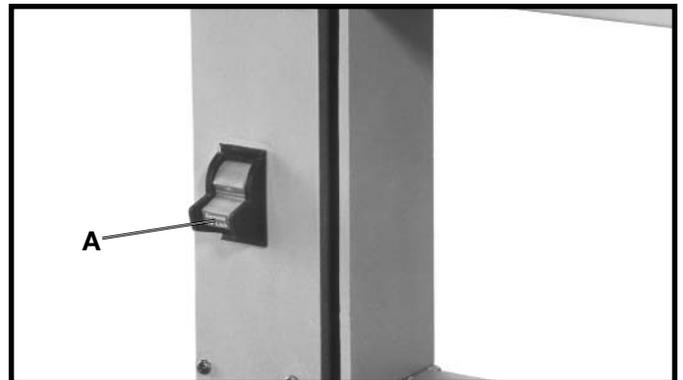

Fig. 13
The switch (A) Fig. 13, is located on the front side of the band saw. To turn the saw “ON” move the switch (A) up to the “ON” position. To turn the saw “OFF” move the switch (A) down to the “OFF” position.